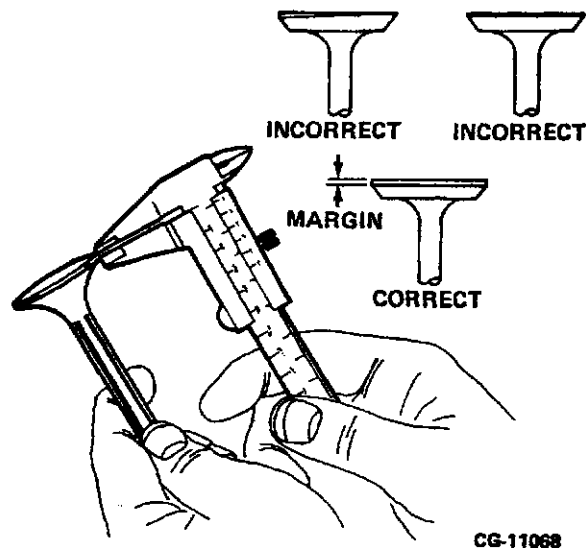

Figure 4.42. Measure Valve Face Margin
2. Measure valve face margin at four locations using a caliper. Refer to Figure 4.42.